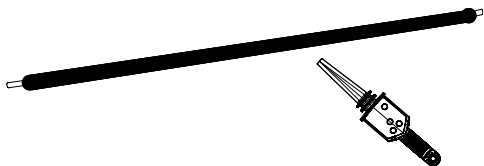

Fig.1 Voltage detection in a line
4. Place the probe tip of the TIC 300 PRO near, but not touching the low ($<1000\text{ V}$) voltage line. See Fig.1